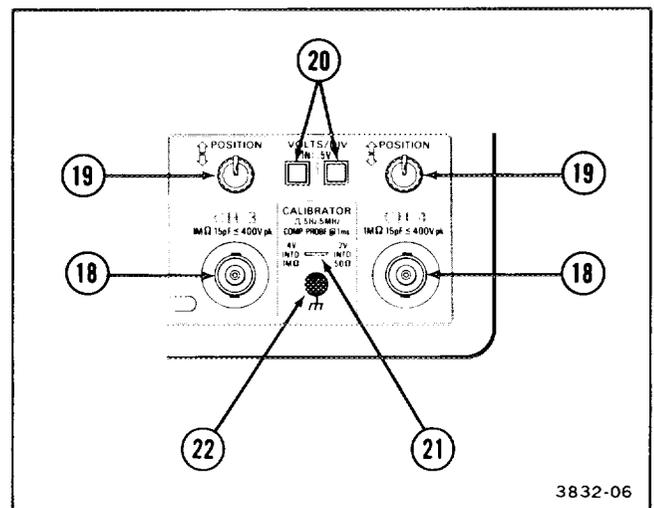

Figure 3-3. Channel 3 and Channel 4 controls and connectors and CALIBRATOR output.
- ⑰ **20 MHz BW LIMIT Switch**—Reduces upper 3 dB bandpass of the vertical deflection system to a limit of 13 to 24 MHz when latched in. Full instrument bandwidth is available when push button is out.
Refer to Figure 3-3 for location of items 18 through 22.
- ⑱ **CH 3 and CH 4 Input Connectors**—Provide for application of external signals to Channel 3 and Channel 4. Input coupling from these connectors is DC only. Coding-ring contacts, identical in operation to the CH 1 OR X and CH 2 input connectors, are also provided. Channel 3 and Channel 4 are most useful as digital signal and trigger signal input channels, given their limited choice of deflection factors.
- ⑲ **POSITION Controls**—Set vertical position of the Channel 3 and Channel 4 signal displays. The controls operate identically to the Channel 2 POSITION control, but with less range on their associated traces.
- ⑳ **Channel 3 and Channel 4 VOLTS/DIV Switches**—Select either of two basic deflection factors for Channel 3 and Channel 4. With the push button OUT, the basic deflection factor (using a 1X probe or a coaxial cable input connection) is 0.1 V per division; when it is latched IN, deflection factor is 0.5 V per division.